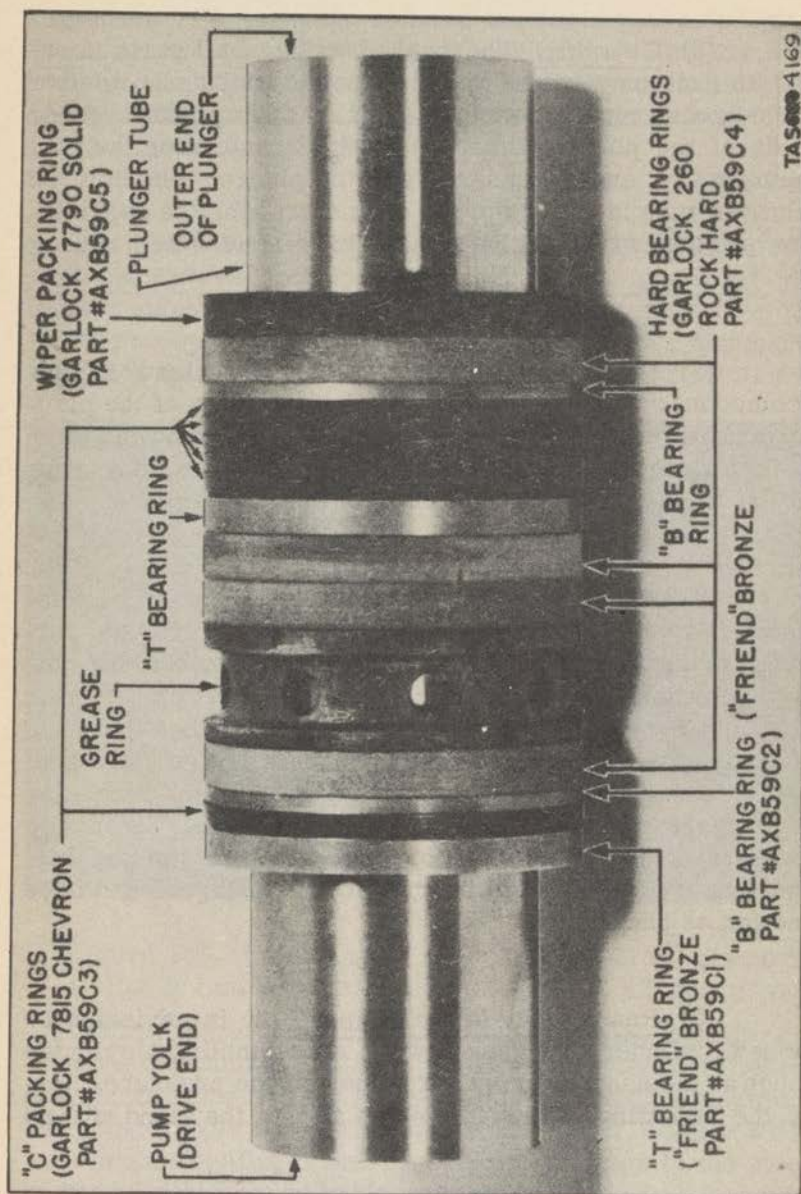

Figure 187. Packing and Bearing Rings.
(2) Cleaning. Thorough cleaning of all parts is essential as grit may cause the plungers to score. Scrape and wash the grease ring (shown in figure 187) and cylinder. Clean the ends of the plunger tube, the mating surfaces on the yoke and plunger cap, and the underside of the plunger tube bolt. If the plunger tube is badly worn it should probably be replaced, as new packing will not give satisfactory service with a worn tube.
(3) Plunger replacement. Put white lead or pipe joint compound on the tube ends and mating surfaces of the plunger cap and on the underside of the plunger tube bolt head when replacing a plunger. This is important, as it prevents the possibility of leakage through the inside of the plunger tube.
(4) Repacking. The packing and bearing rings must be installed in the sequence shown in figure 187. Oil the outside of the plunger tube and dip each packing and bearing ring in oil before installing. Make certain that the grease ring is installed in proper relation to the packing, and, when inserting the chevron type rings, insure that the edges are not damaged. It is not necessary to replace the bearing rings when repacking pump plungers unless they show excessive wear. Ordinarily these bearing rings will serve for about three sets of packing. (The bearing rings serve as a bearing for the plungers and have no function as packing.)
(5) Reassembly of the cylinder. It is advisable to use a new cylinder cup gasket when reassembling a cylinder inasmuch as the used one may not withstand the pressure. Unscrew the adjusting screw in the cap so that the gland will go